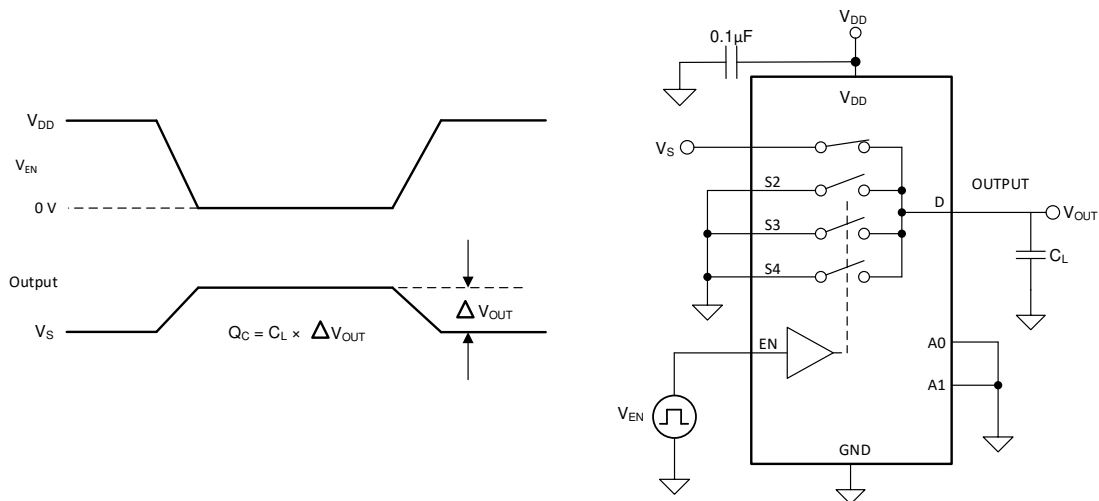

Figure 6-7. Charge-Injection Measurement Setup
The TMUX1104 has a transmission-gate topology. Any mismatch in capacitance between the NMOS and PMOS transistors results in a charge injected into the drain or source during the falling or rising edge of the gate signal. The amount of charge injected into the source or drain of the device is known as charge injection, and is denoted by the symbol Q_C . Figure 6-7 shows the setup used to measure charge injection from source (Sx) to drain (D).